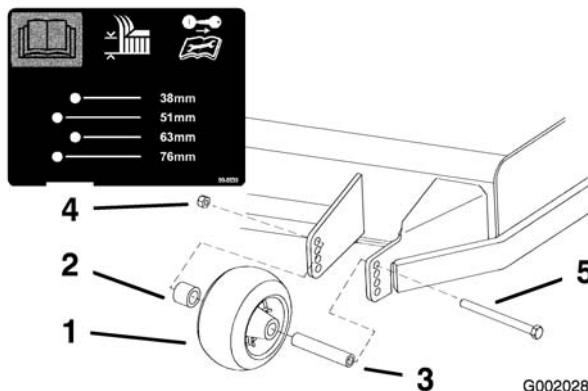
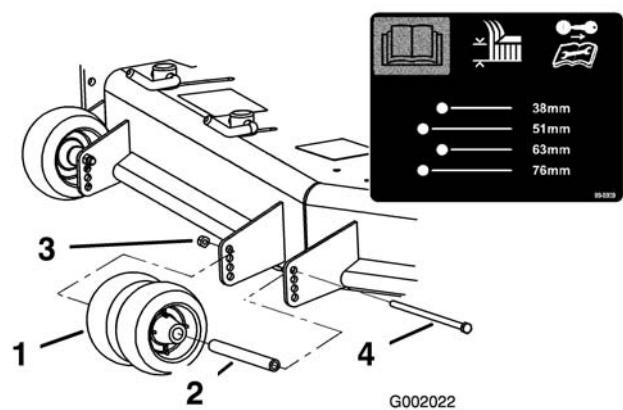
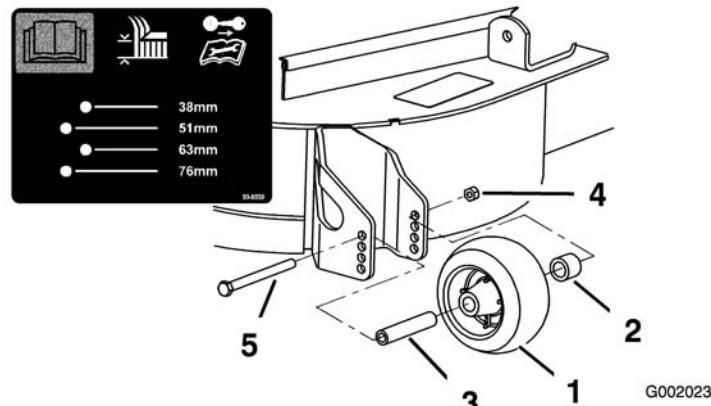

Figure 20
Figure 21
Figure 22
3. After adjusting the height-of-cut, adjust the rollers by removing the flange nut, bushing, spacer, and bolt (Figure 20 , Figure 21 and Figure 22).
Note: The two middle rollers will not have a spacer (Figure 21).
5. Install the flange nut, bushing, spacer, and bolt. Torque to 40-45 ft-lb (54-61 N·m) (Figure 20 , Figure 21 and Figure 22).